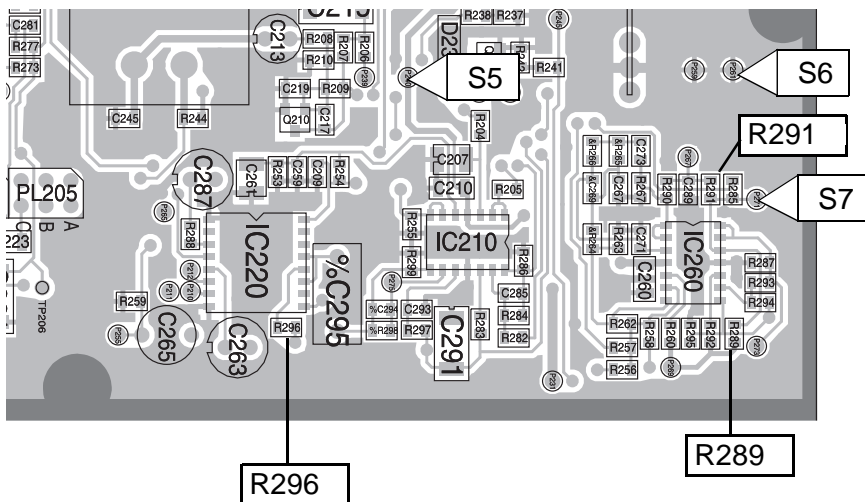

Figure 2 T800 Transmitter Audio Processor (older version without Micromatch connector) - Top Side
4. Remove R291, R289, and R296 from the audio processor (shown in Figure 2).
For more information, refer to Figure 2 and the Test Points and Options Connections drawing in the relevant service manual)